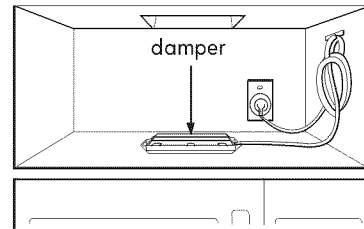

Figure 32
5. Roof vented installation: See Figure 32.